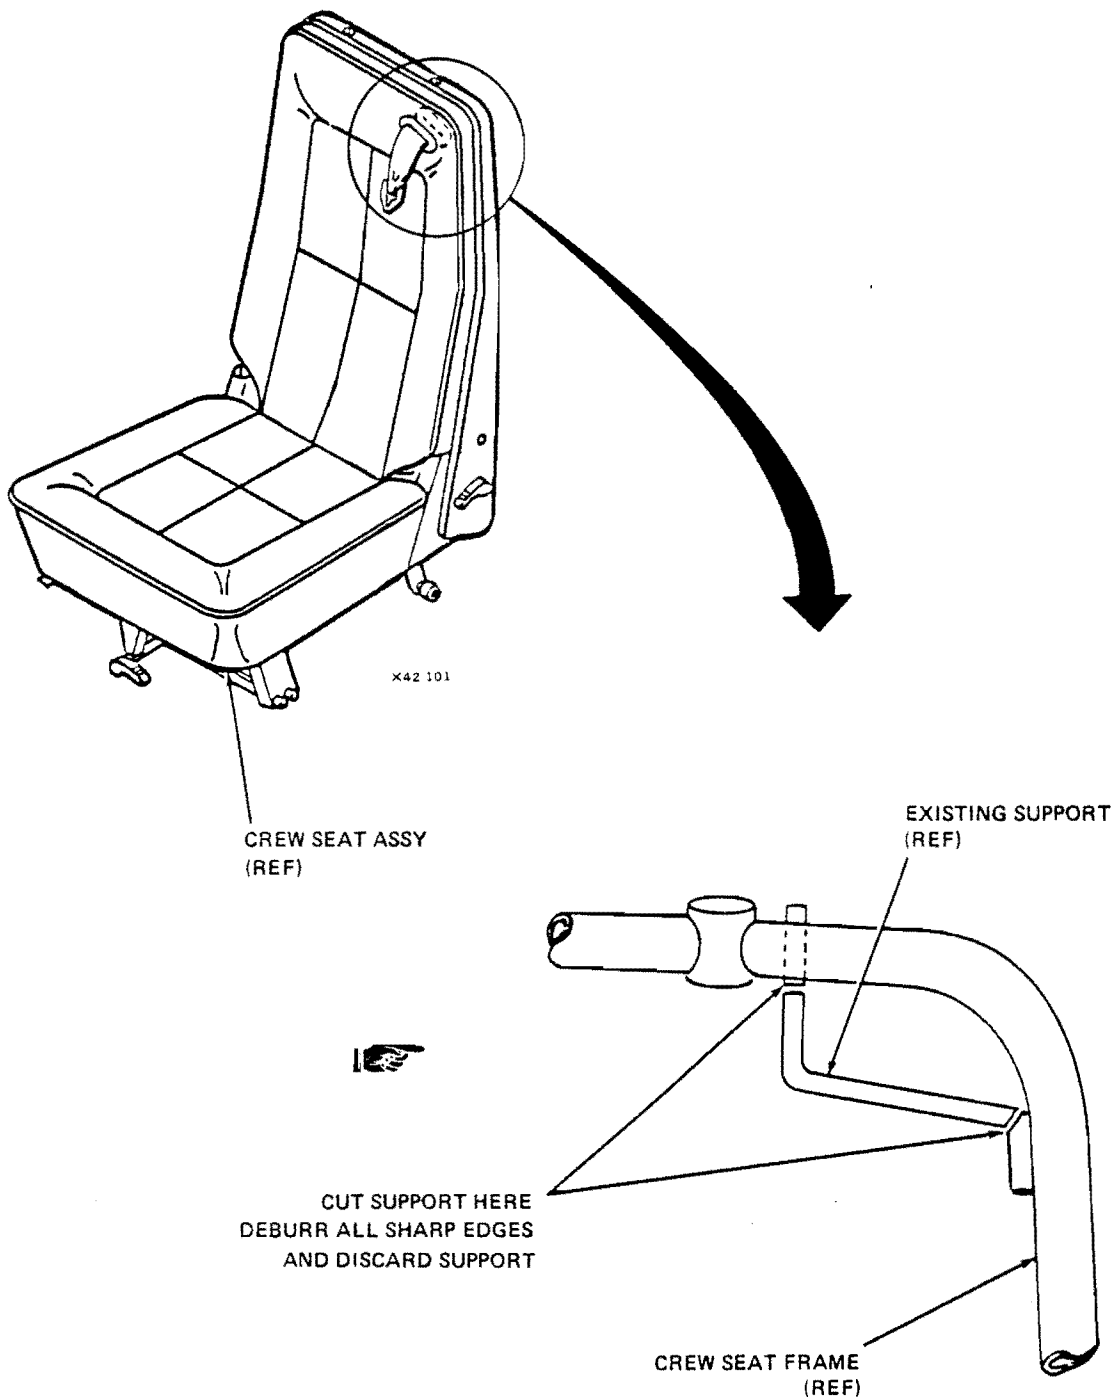

Figure 2.
- e. Remove and discard existing shoulder harness support from seat frame (refer to Figure 2).